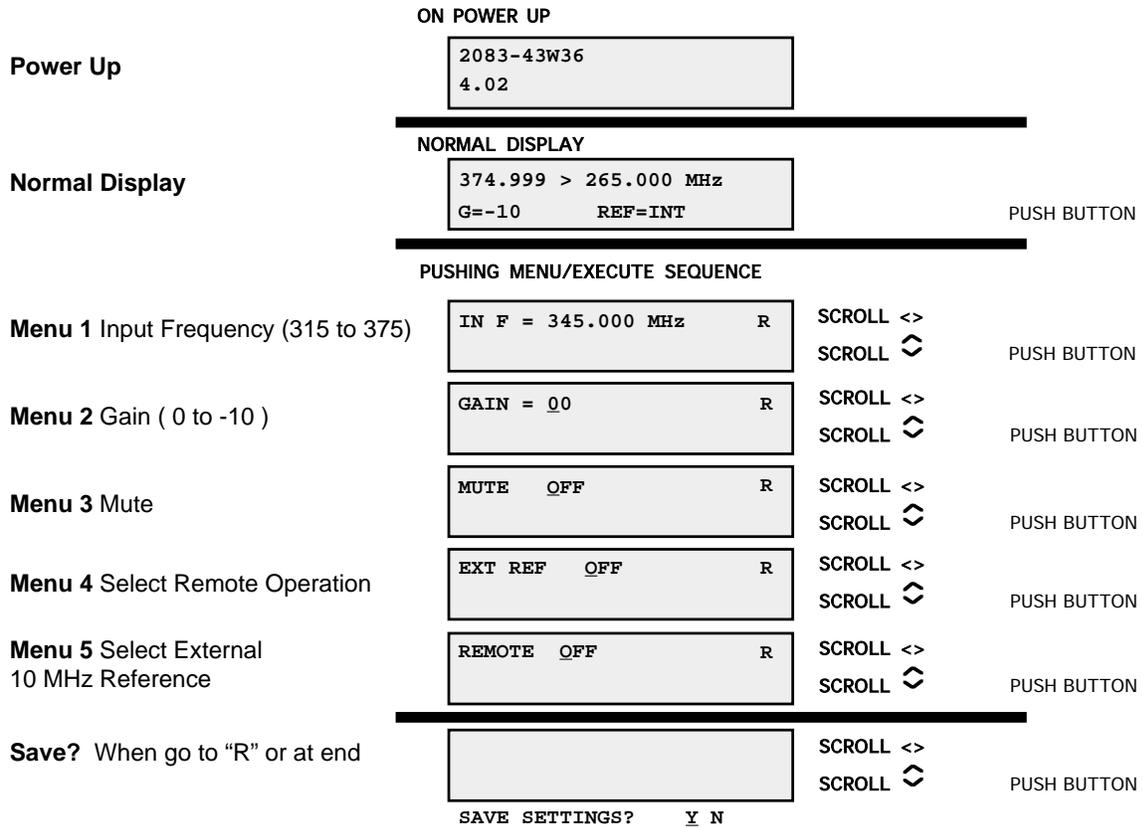

FIGURE 2.4 Menu Display and Sequences
2.5.1 Functions - This section describes operation of the front panel controls. There are three operator switches, the LCD display and alarm indicator LEDs. All functions for the equipment are controlled by these components. The functions are (see Figure 2.4):
Figure 2.4 gives the menu items and how to make changes.